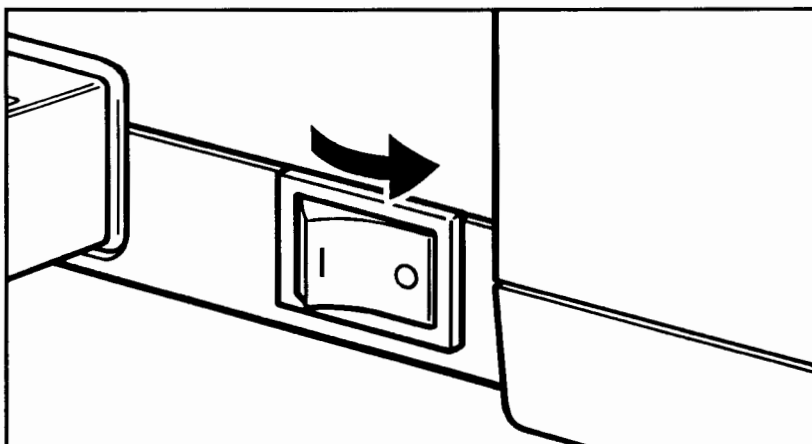

Figure 15. Turning ScanJet Plus Off
6. When scanning unit is in the home position, turn the scanner off. See figure 15.